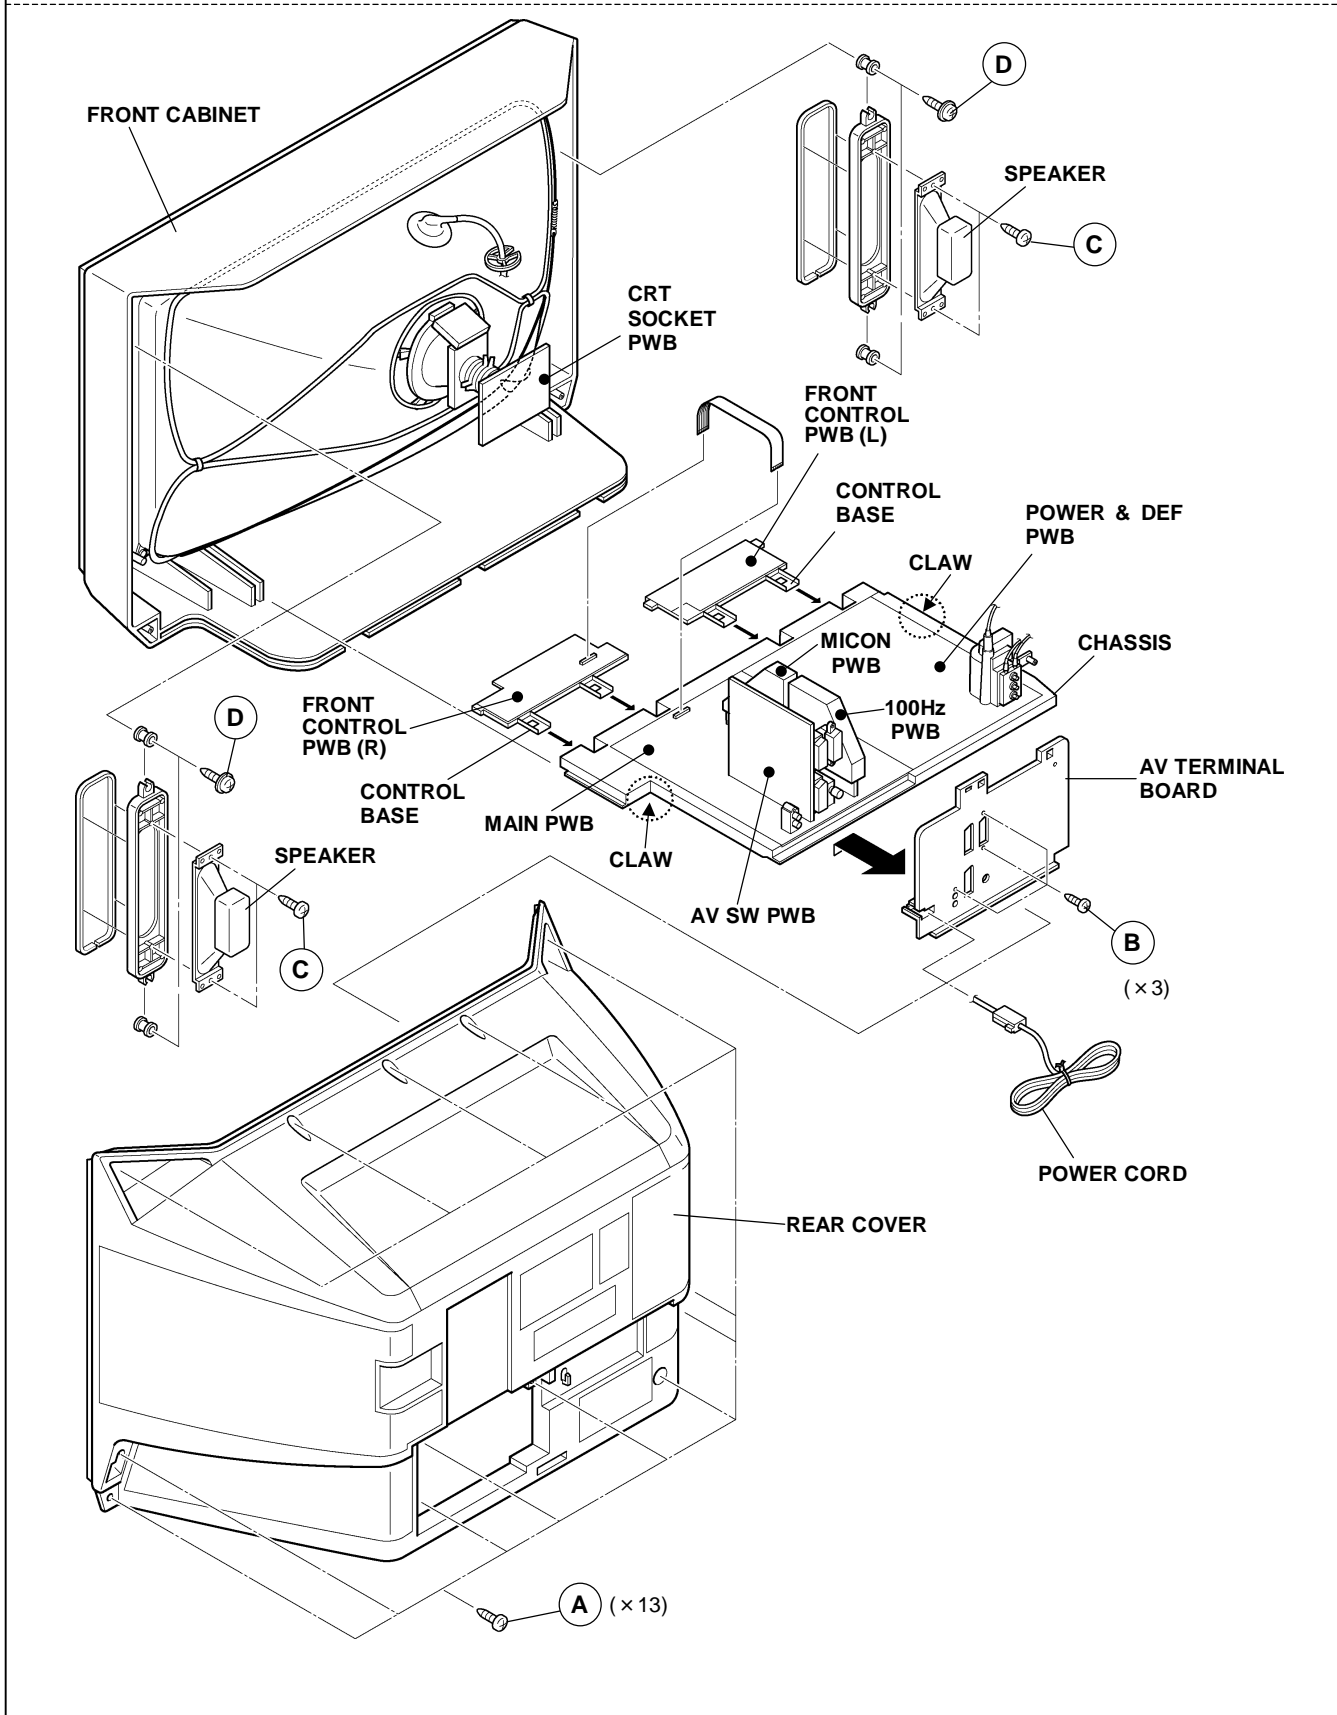

Fig. 1
1. Remove the 2 screws marked (D) as shown in Fig. 1.
- NOTE :** When removing the screws marked (D) of the speaker remove the lower side screw first, and then remove the upper one.
2. Remove the 2 screws (C) attaching the speaker.